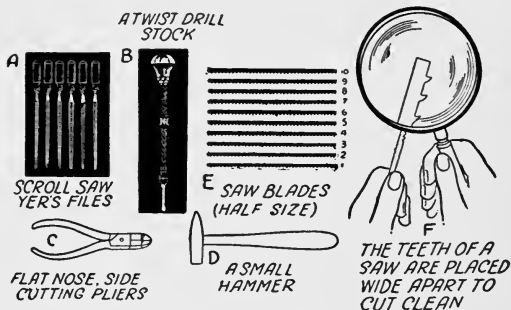

FIG. 11. SOME NECESSARY SCROLL SAWING TOOLS
*Files for Scroll Work.*—To do a really neat job at scroll sawing you should have a set of scroll saw files. These files are long and thin and are made round, oval, knife edge, half round and three cornered as shown at A in Fig. 11.
*A Twist Drill Stock.*—A twist drill stock and a drill, see B, Fig. 11, is far better for making holes in wood than an awl and as they only cost 50 cents you should have one. You can make a hole in a  $\frac{1}{8}$  inch thick board in the  $\frac{1}{100}$ th part of a minute.
toward making your scroll sawing efforts a success. A pair is shown at C in Fig. 11.
Star blades. The sizes from 1 to 10 are shown at E in Fig. 11, but three smaller and two larger sizes are made. The smaller sizes cost 10 cents a dozen and the larger sizes 15 cents a dozen. The spacing of the teeth on the blade is shown at F.